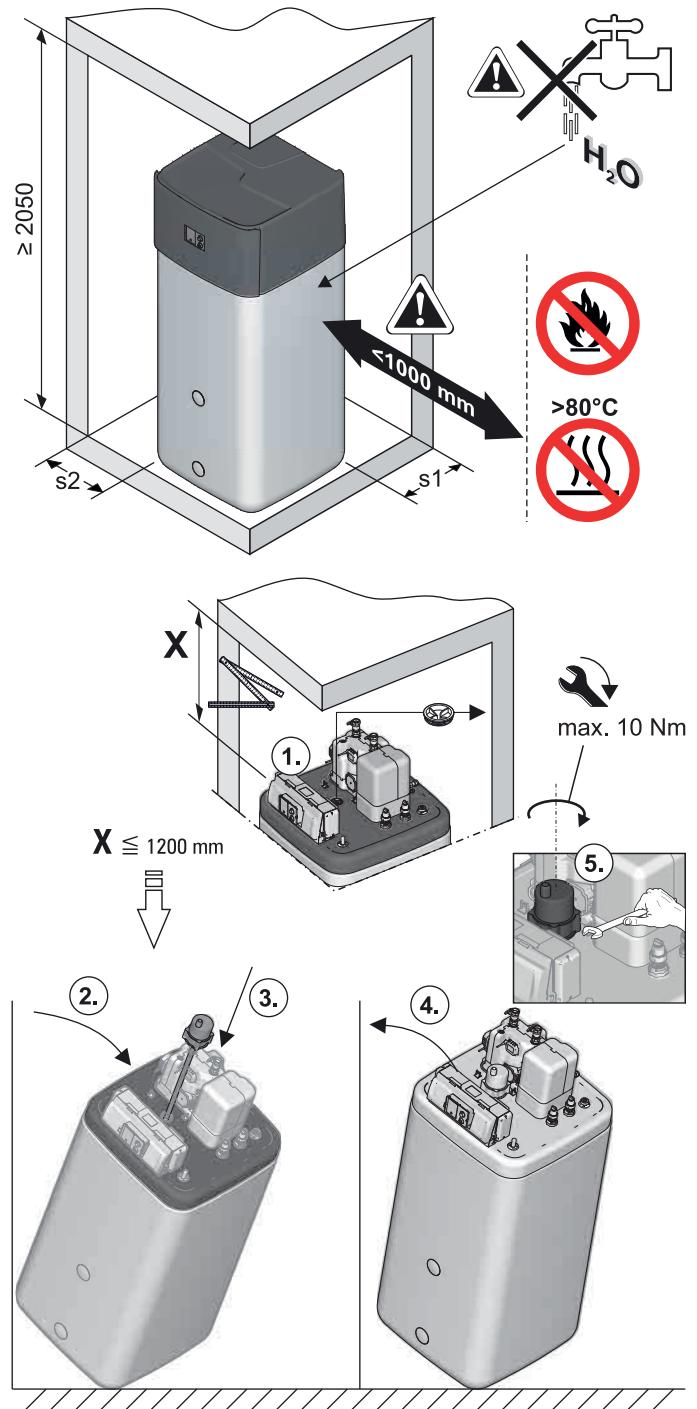

Fig. 4-5 Layout (shown on ROTEX HPSU compact 508/516 with incorporation of the optional Backup Heater)
- Recommended clearances (fig. 4-5):
- If necessary, install the optional Backup Heater (BUxx) in the ROTEX HPSU compact (fig. 4-5).